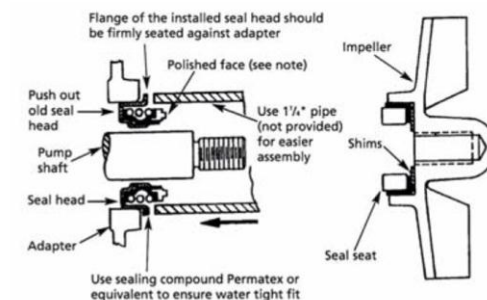

Figure 1 - Mechanical Seal Replacement
Refer to Figures 1 and 2
10. Replace any impeller shims removed in disassembly (See Figure 1).
13. Install impeller back in place (CW), tightening until it is against shaft.